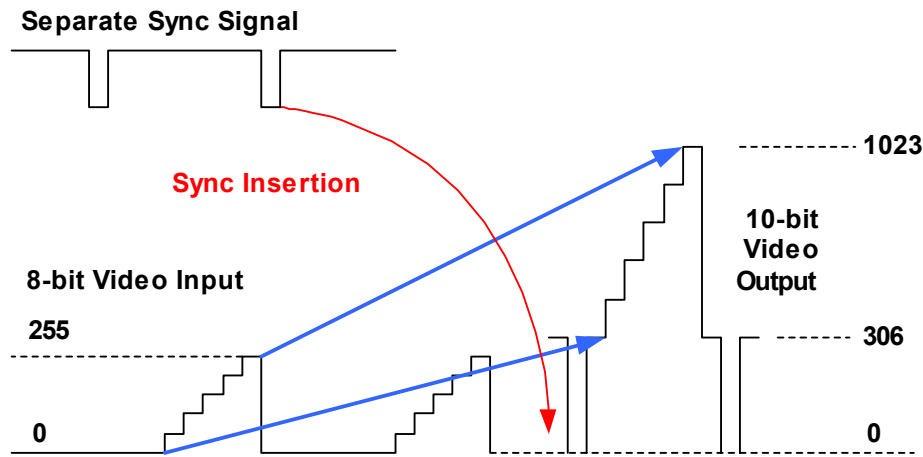

Figure 4-17 Mapping and Sync Insertion
The sync signal is inserted into the digital video signal (Y channel) prior to digital to analog conversion allowing ease of use. Prior to the sync insertion, the active video data is shifted from 0 to Blanking Level (306). The mapped video data will then swing between the Y Blanking Level and 1023, while the range from 0 to Blanking will be used for sync insertion only. The sync insertion conforms to the timing requirement of EIA-770-2A. Figure 4-17 shows the insertion of the sync signal. The video data mapping uses the following gain control formula.
Figure 4-17 illustrates mapping and sync insertion.